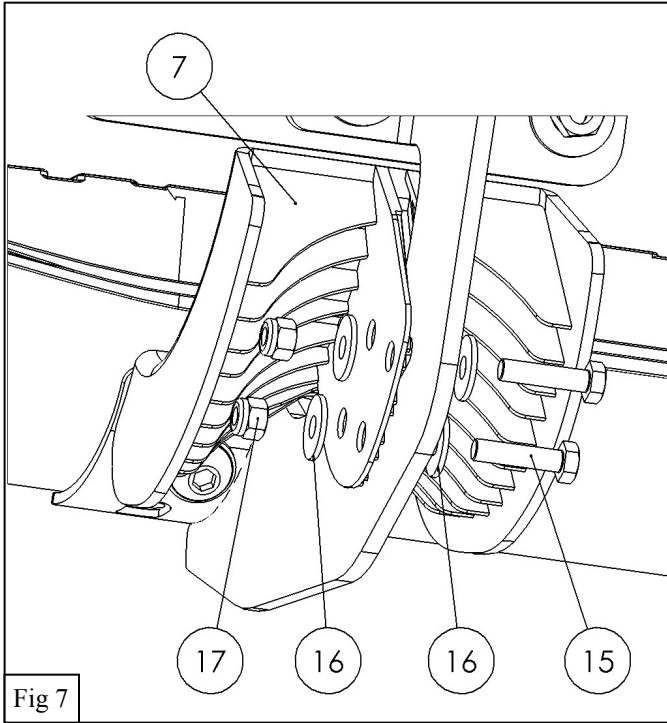

Fig 7
- At the front passenger mounting location, loosely install Mounting Bracket B (4) with preassembled Mounting Bracket C (5). **Note:** Installation is similar to Mounting Bracket D.
8. Secure the Plastic Cover Brackets (7) to the Mounting Brackets using the supplied M6 Hardware. See **Figure 7**